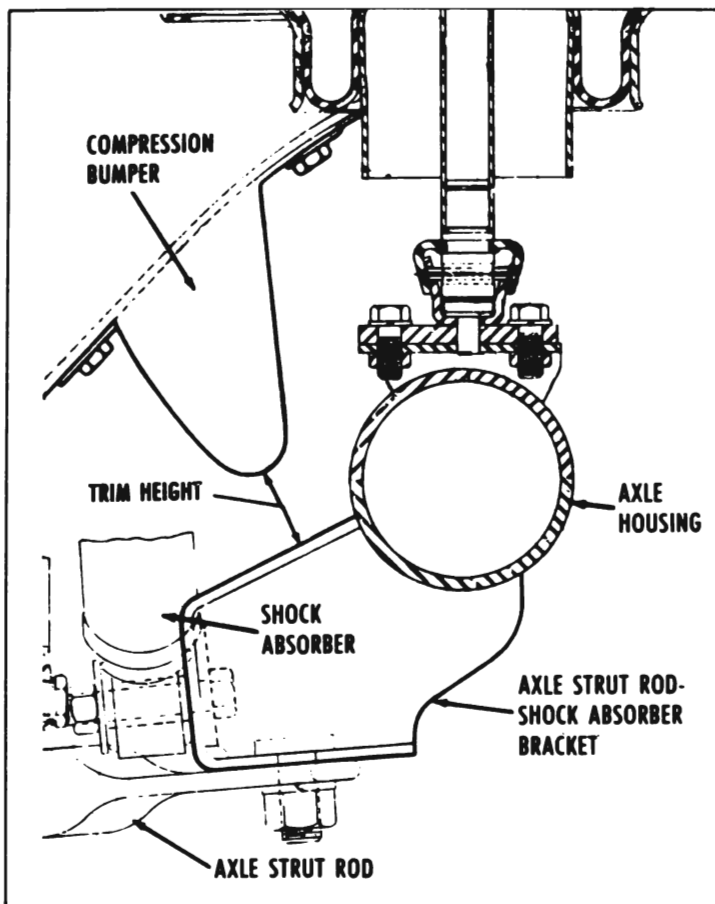

Figure 7-80—Rear Trim Height
5. To check rear trim heights, check the distance between the tip on the bottom of the rear compression bumper and the bumper bracket directly below the compression bumper. Distance should measure $1\frac{5}{8}$ ", plus or minus $\frac{1}{4}$ ", on all models except the 49 and 69. The distance should measure $1\frac{1}{4}$ " plus or minus $\frac{1}{8}$ " on the 49 and 69 models. Repeat check on the other side. See Figure 7-80.